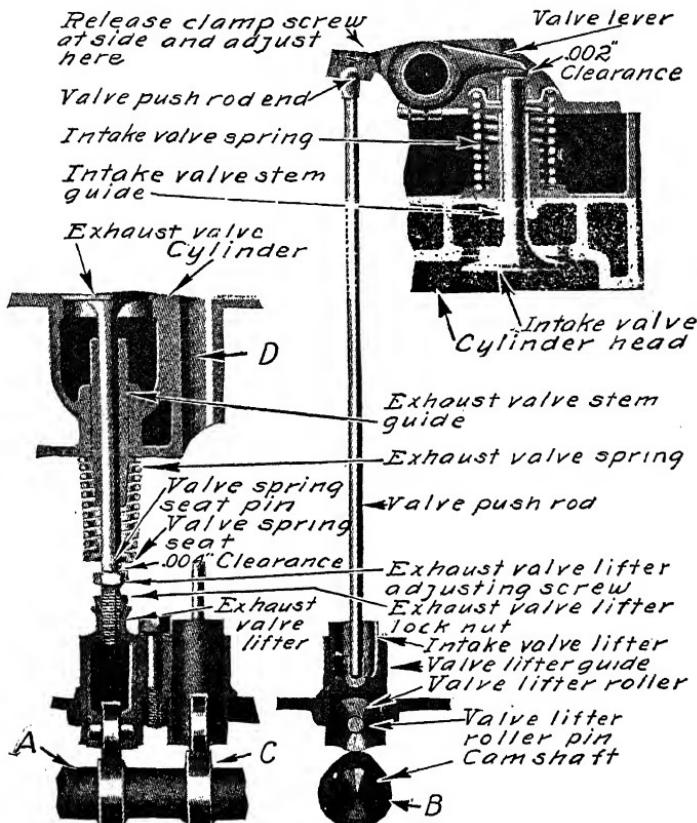

Fig. 5. Typical Valve Operating Mechanism for an F-Head Engine
**F-Head Engine.** The F-head engine is designed with one valve at the side, similar to the design of the L-head, and with the other overhead as in the I-head engine. Fig. 5 illustrates the F-head valve mechanism. At A appears a section of the camshaft with the two valve lifters. The exhaust valve is the side valve and the overhead valve is the intake. The reader will be interested in making a study of this valve mechanism since the names appearing on this illustration are those adopted by the S.A.E. and are those which should be used in speaking of the valve actuating parts and the valves. The parts at B have been turned a quarter turn and moved to the side for the sake of the illustration. The cam C is the same as B, but viewed from the side position. The valve push rod passes through the cylinder casting at D when in natural position.